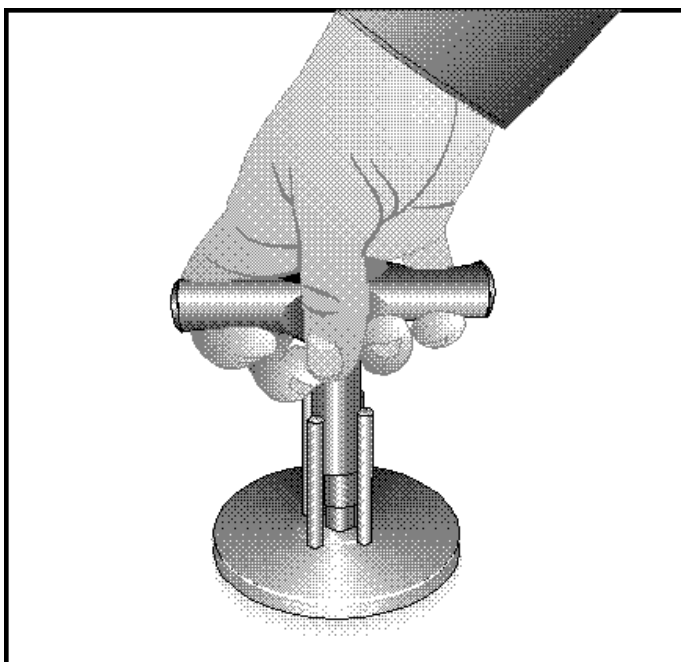

Figure 2
5. Align the sealing tool over the hexagonal lid as shown in Figure 2 here.